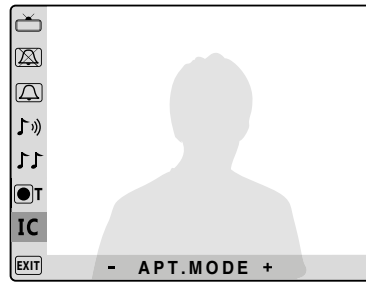

Fig. 4F
- To set the intercommunication for different apartments (videophones with different PHONE ID) press the button  until you select the "APT. MODE" (Fig.4F). In stand-by mode, by pressing the button  one or more times you will be able to call the videophones with PHONE ID from 1 to 9.